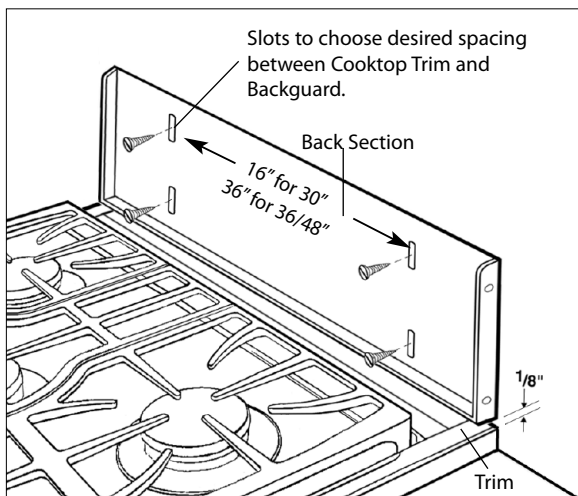

Fig.01
2. After unpacking all backguard system parts, locate the Back Section 1/8" above and centered over the Trim attached to the cooktop.\* Secure Back Section to wall with the appropriate fasteners (not supplied)(fig. 01).